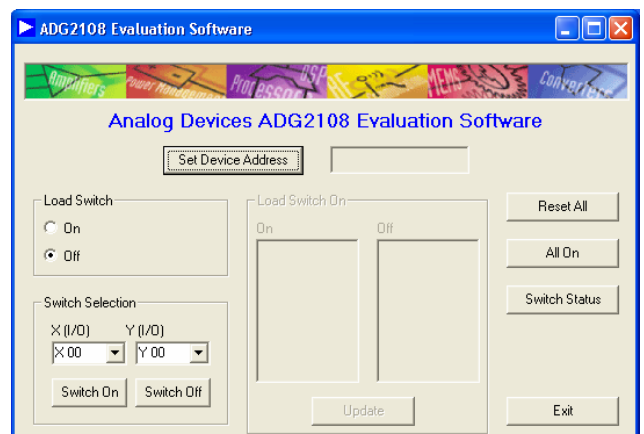

Figure 2. Main Screen
2. Next, the main window is opened (see Figure 2).
1. From the main screen shown in Figure 2, click the **Set Device Address** button.
The **Load Switch** option button from the main window (shown in Figure 2) allows you to enable or disable the load switch function.
1. Selecting the **On** button allows all the switches to be updated simultaneously (for example, the RGB colors in video switching). In addition, clicking the **Switch On/Switch Off** buttons (when the **Load Switch** button is **On**) stores the switch status temporarily until **Update** is clicked. The switches in temporary storage are shown in the list boxes **X (I/O)** and **Y (I/O)** in Figure 2. Next, all the switches in the **Load Switch** area are updated simultaneously upon clicking the **Update** button.
2. Alternatively, click the **Reset All** button on the main screen of the software (shown in Figure 2) to reset all switches.